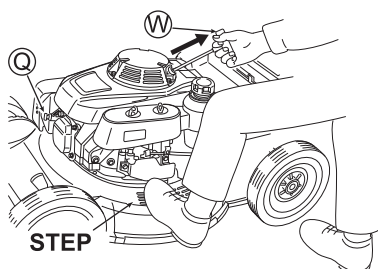

Fig. 12
- 1 Install Plug cap (Q). (See Fig. 12)
- 4 To start the engine, step one foot on the step of the housing, lightly pull Starter knob (W) and temporarily stop at a position where you feel heavy to pull the knob (See Fig. 12), and then powerfully pull it from that position. After that, return Starter knob (W) slowly.